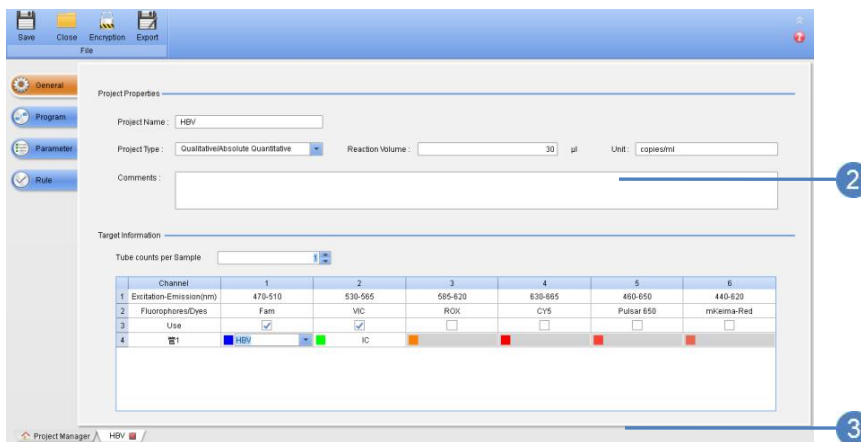

Fig 7- 2
- 2 Then click on the **General** tab to go to the following screen (Fig 7- 2). Enter “HBV” in **Project Name** field; in the **Project Type** drop-down menu, select **Qualitative/Absolute Quantitative**. Input “30” in **Reaction Volume** field. If necessary, edit the information of unit and comments.